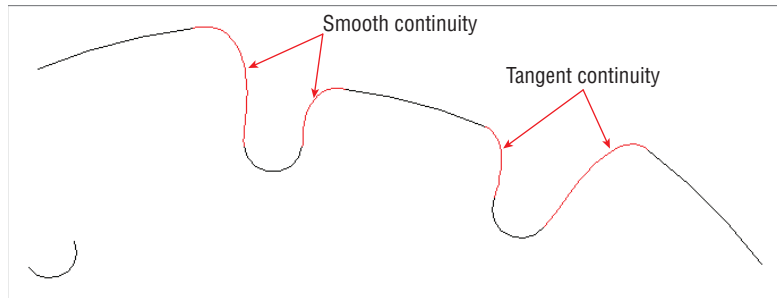

FIGURE 5.20 Blending between arcs with different types of continuity
3. Press the spacebar to repeat BLEND, type **CON** (for Continuity), press Enter, type **S** (for Smooth), and press Enter again. Click two adjacent arcs to create another blend curve (see Figure 5.20).